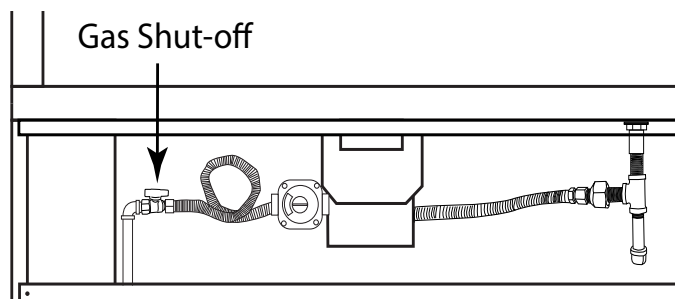

Figure 1 - Close up view of inlet gas connection with shutoff valve
GAS LINE: The gas line must have a predetermined location to enable it to be installed. *Figure 1* shows one example of an inlet gas line with a gas shut off at the fireplace. This allows a technician to shut the inlet gas supply OFF and remove the burner for servicing. It is imperative that the flex line from the gas shut-off be long enough to lift out burner pan for service. **Ensure you follow the local and state gas codes per your installation.**
3. The primary gas shutoff (supplied) will require a 1/2" male flared fitting to enable connection of the stainless steel flex gas line supplied with the fireplace (*See Figure 1, Page 5*).
NOTE: Preparation for the LED lighting and the inlet gas line must be planned before the fireplace is installed. See **Page 5, Figure 1** for inlet gasline and **Page 15** for LED lighting.